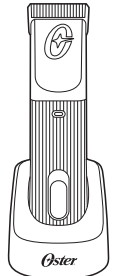

Figure 1
3. Ensure that the switch on the unit is in the «OFF» (O) position.
5. Insert the clipper into the charging stand so that the top of unit is facing you and the contacts on the clipper are aligned with the contacts on the charging stand. The top of the unit is the side with the switch (Figure 1).